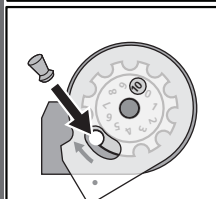

Fig. 7c
- Place the first pellet in the magazine head first. Make certain the pellet does not protrude out the back of the magazine. In the event the pellet does protrude simply push the pellet inward. Be careful not to squeeze or damage the pellet as this could affect accuracy. (Fig. 7c)